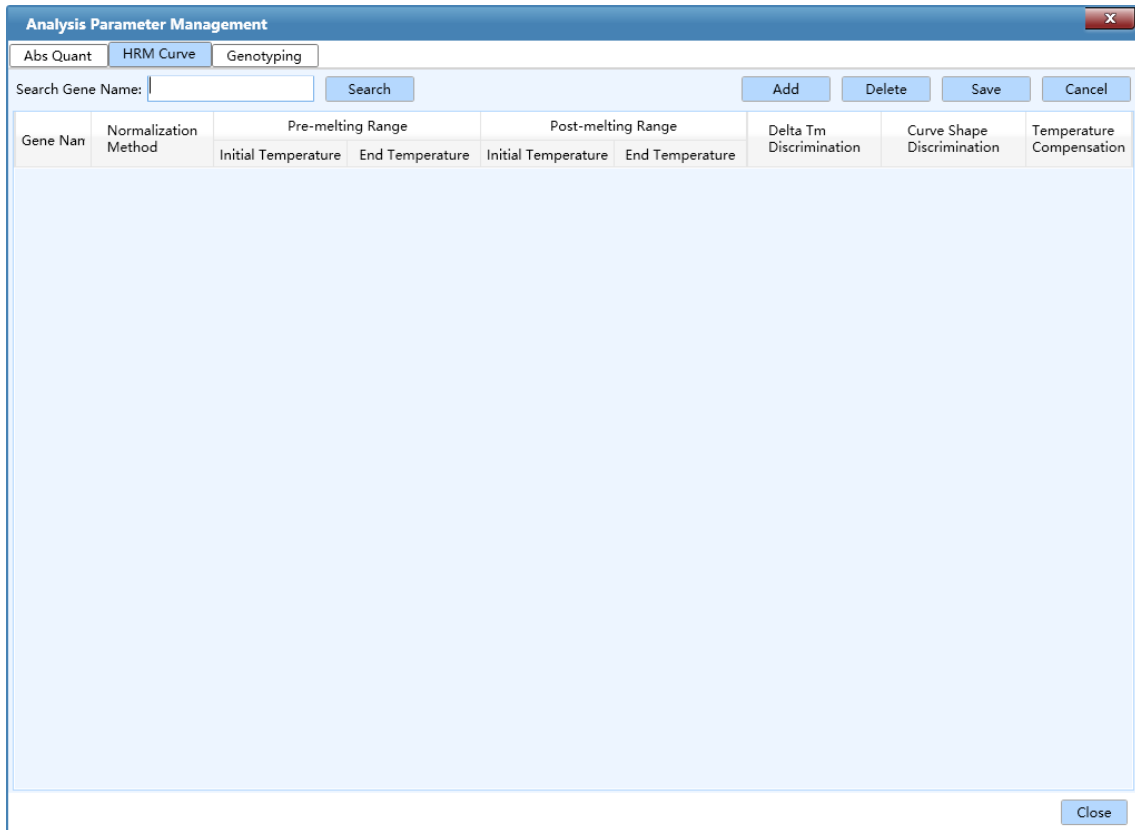

Figure D-3.10b. Parameter Management Interface - HRM Curve Tab
- ▶ **HRM Curve** tab: User can manage the analysis parameters of specific or multiple genes for high resolution melting experimental results analysis on the **HRM Curve** tab, as shown in figure D-3.10b.